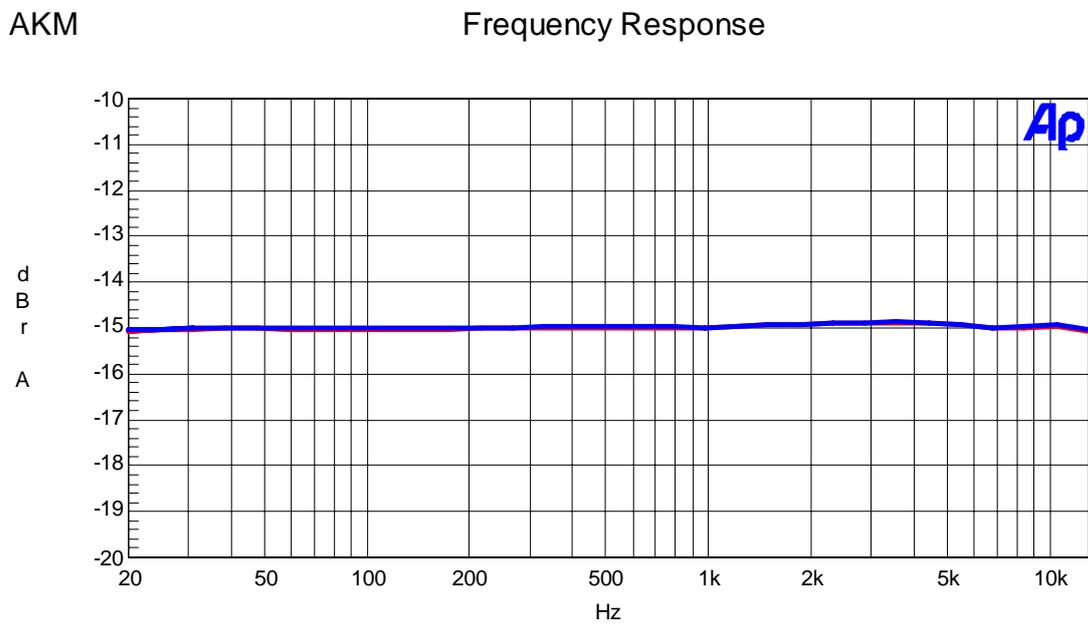

Figure. 12 Stereo mode Frequency Response (-15dB)
- Figure. 12 : Frequency Response (-15dB)